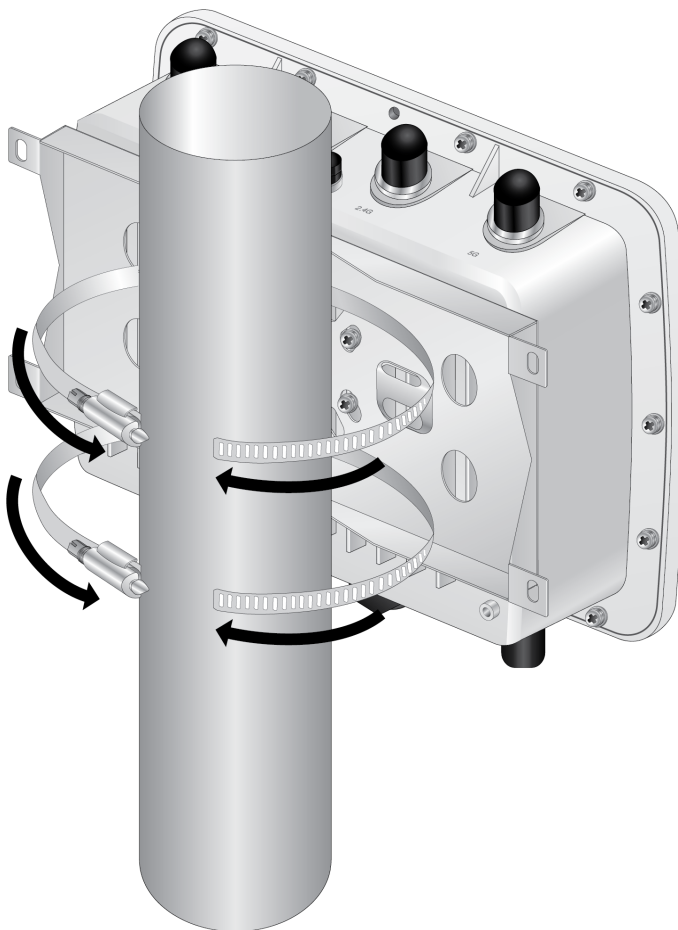

Figure 31. Wrapping the Pole Straps Around the Pole
4. Wrap the pole straps around the pole as shown in Figure 31.